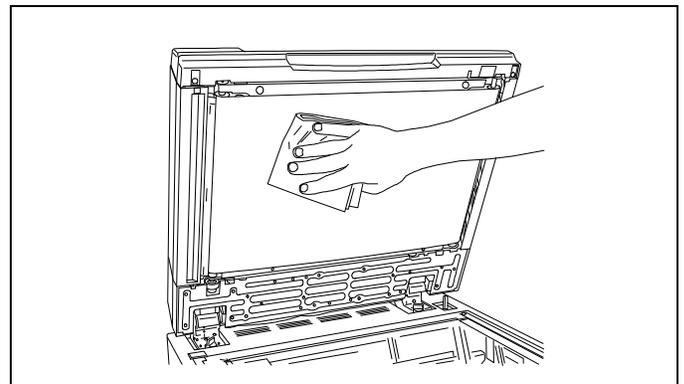

Figure 49
2. See Figure 49. Wipe the underside of the document glass cover with a clean lint-free cloth dampened with Xerox Film Remover.